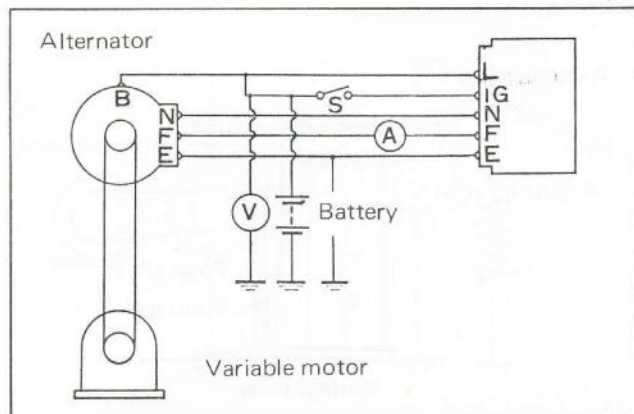

Fig. 6-102 Regulator Actuating Voltage Adjustment
1. Make the hook up as shown in Fig. 6-102. Close the switch (S) and gradually speed up the alternator. Record the ammeter maximum deflection (If max).